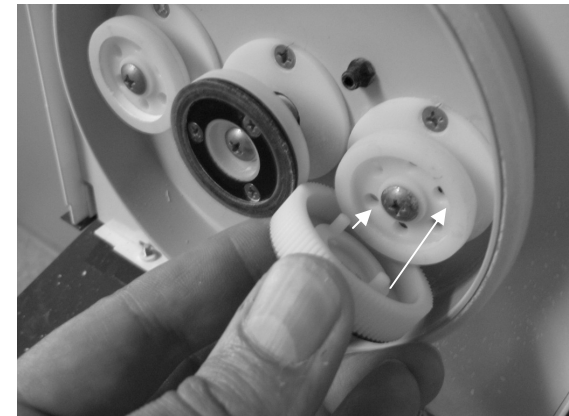

Figure 5: Installing Polishing Pads
- Note the two alignment prongs protruding from the back side of each polishing pad. These prongs must align with one of the three sets of holes on each pad holder (see Figure 5).